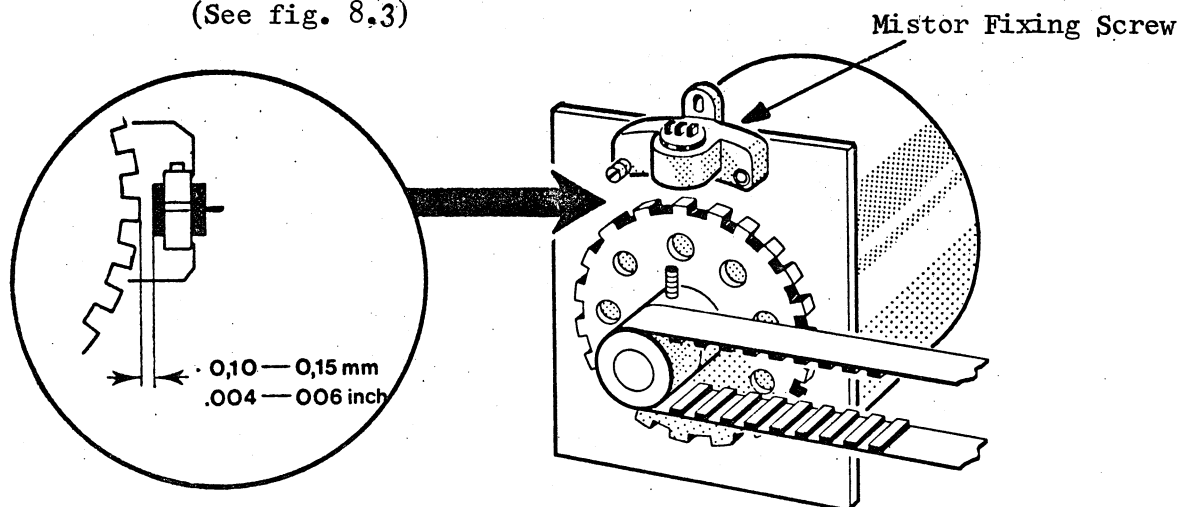

Fig. 8.3 Mistor Support Assembly for the "MARA" Mechanics
- Insert a 0,10 mm (.004 in.) blade and lock the previously loosened screw, keeping the mistor pressed against the blade (See fig. 8.3)